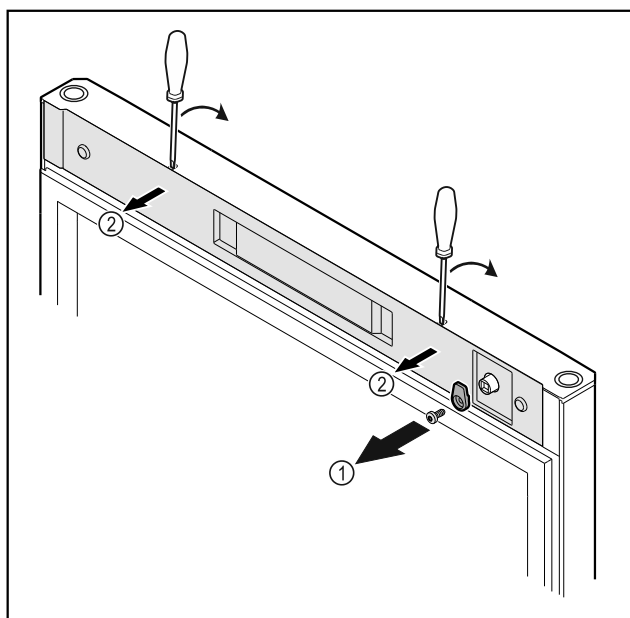

Fig. 53
- Unscrew the door latch Fig. 53 (1).
- Unlatch the cover Fig. 53 (2) with a small screwdriver and remove it.